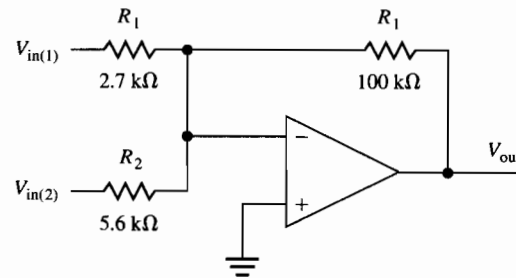

Figure C-21-3
13. Assume two input signals from different microphones are connected to the summing network shown in Figure C-21-3.